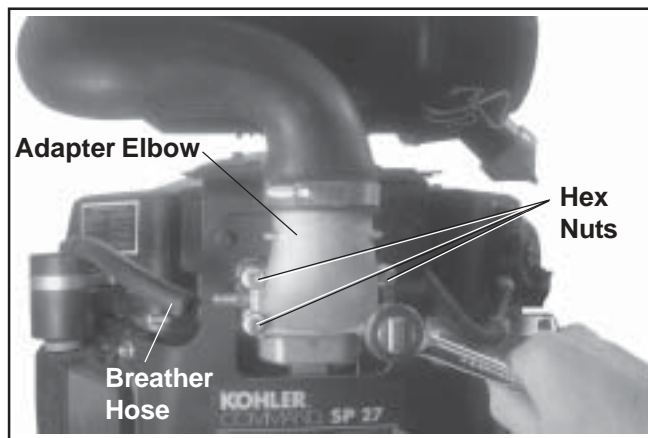

Figure 9-10. Removing Breather Hose, Hex Nuts and Adapter Elbow (Two-Barrel Model Pictured).
1. Disconnect the breather hose from the fitting in adapter or elbow. Remove the hex flange nuts securing the adapter and any attached clips to the mounting studs. See Figure 9-10.